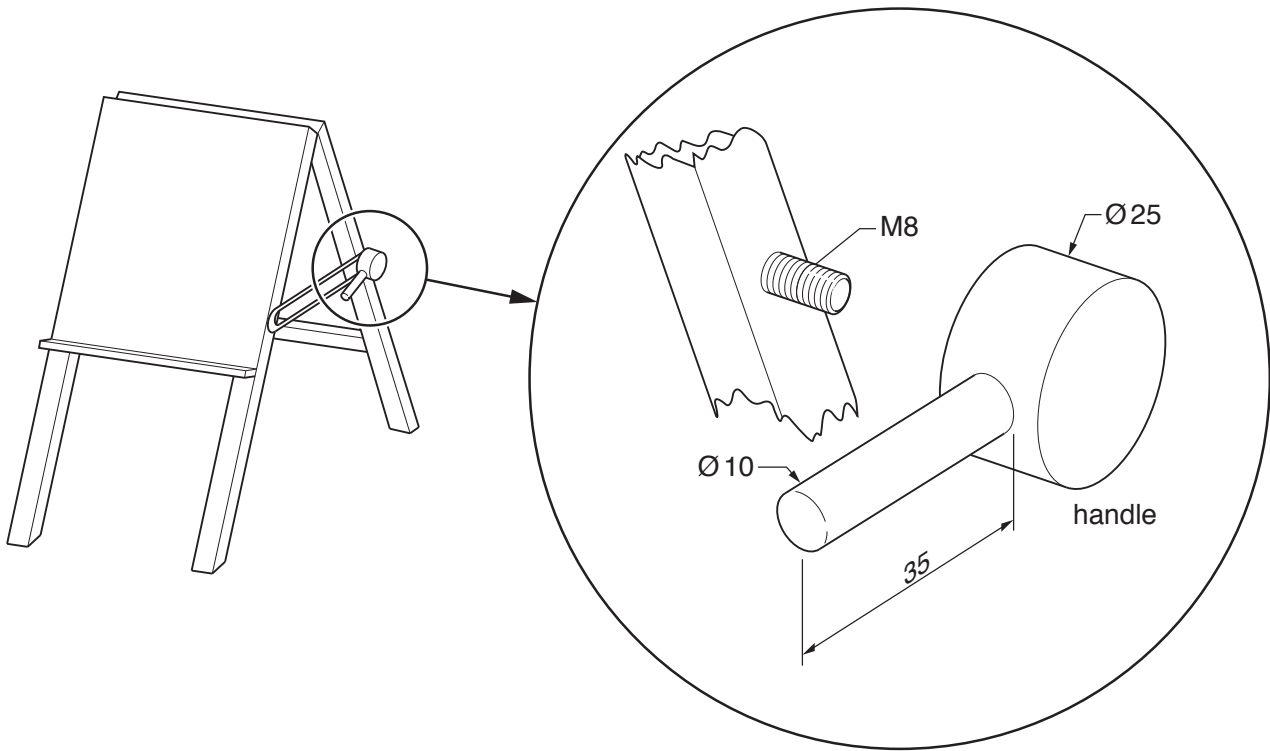

Fig. 2.1
2 Fig. 2.1 shows details of a child's easel.
- (a) State a suitable material for a handle of the type shown in Fig. 2.1 and give **two** reasons for your choice. [3]